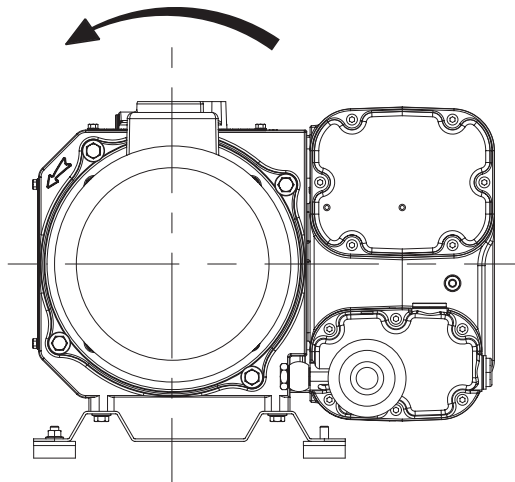

Fig.7
- Check direction of rotation by starting the pump for a short time (2-3 seconds). The correct direction is shown by the arrow on the pump (figure 7). In case of wrong rotation, it is necessary to change the motor rotation by exchanging position of two of the three connections previously connected to the motor terminal box.